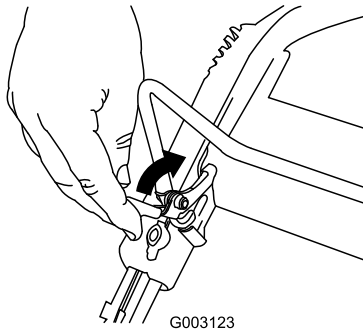

Figure 20
1. Pull the control bar lock back (Figure 20).